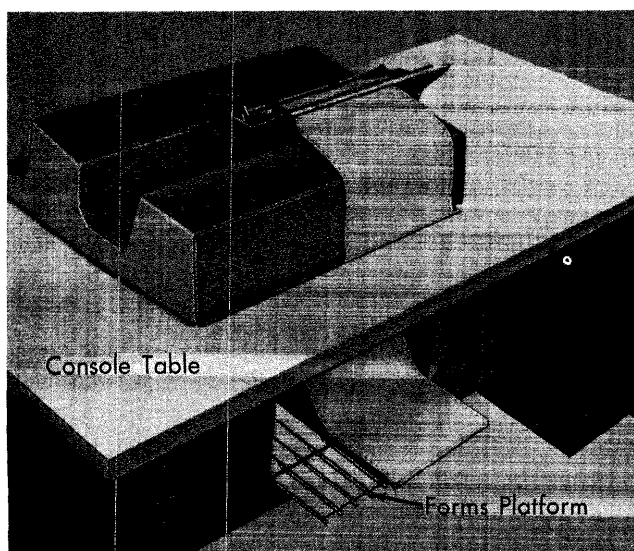
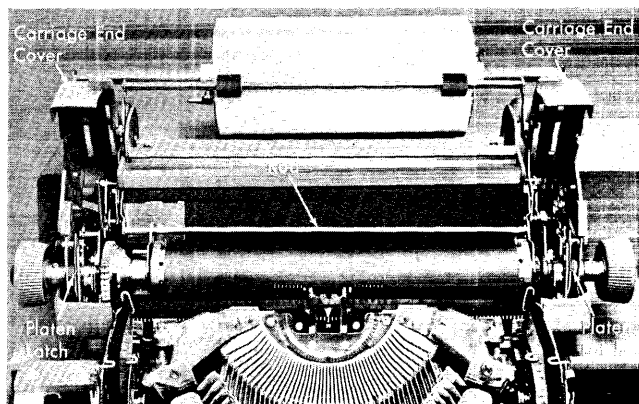

Figure 82. Continuous-Forms Feeding
Figure 84. Platen Removal
Either roll paper or continuous forms can be fed in the 1407 typewriter. A roll of paper is mounted on a rod above and in back of the platen (see Figure 84). To insert continuous forms (Figure 82), follow these steps:
2. Raise the paper bail, rod, and left- and right-hand carriage end covers (Figure 84).